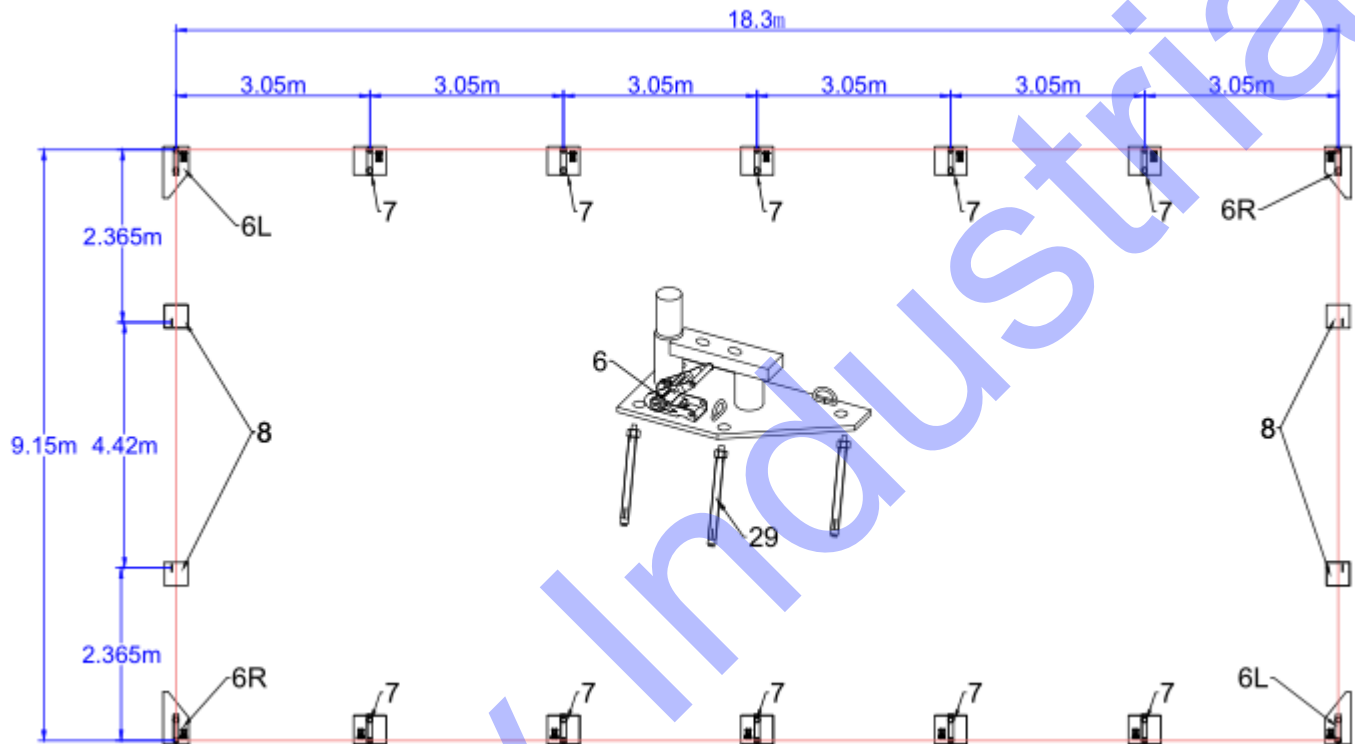

Figure 2:Foundation placement
Please refer to the diagram (Figure 2) to place the base plates:
- 2.As Figure 2 shows each Base plate is equipped with 4 pieces of Stake peg.